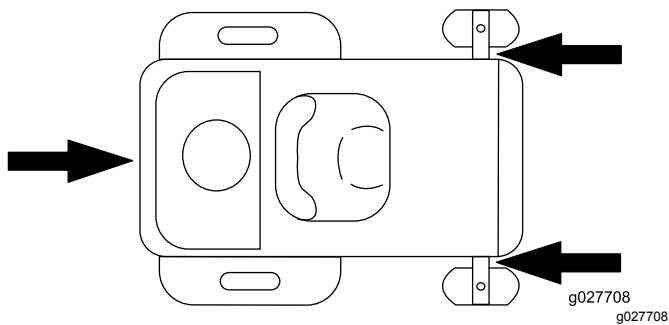

Figure 23
5. Tie down the machine near the front caster wheels and the rear bumper (Figure 23).